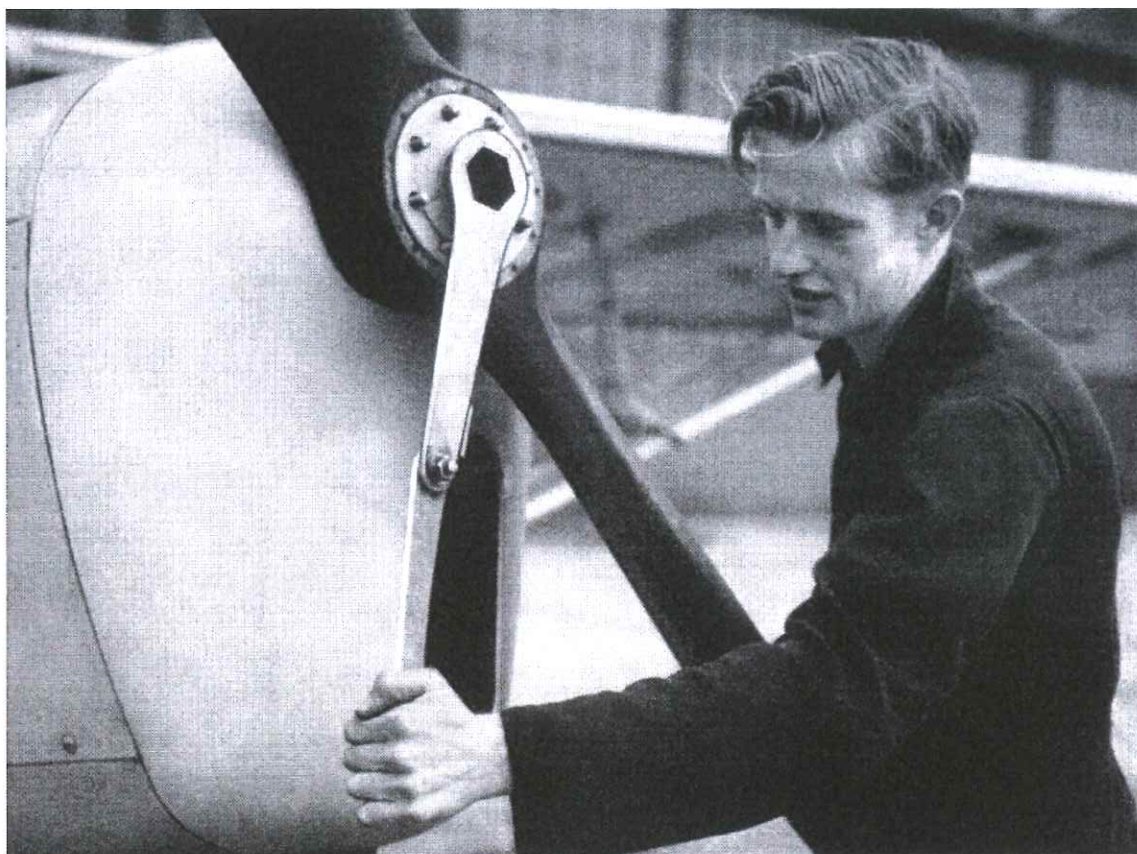

Figure 33.—Removing crankshaft nut with special spanner FB.807, using propeller to prevent the crankshaft turning.
1. When necessary to remove propeller and nose cowl, take out the split pin, remove nut and conical washer on the spinner. Remove spinner and lockplate, unscrew nuts from propeller bolts and withdraw front plate and propeller. There is no need to remove the propeller hub. Nose cowling can be removed (see Fig. 33).